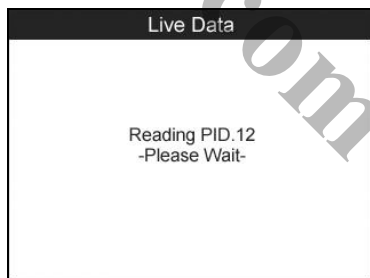

Figure 6.8
- 2) Wait a few seconds while the scan tool validates the PID MAP. (Figure 6.8)